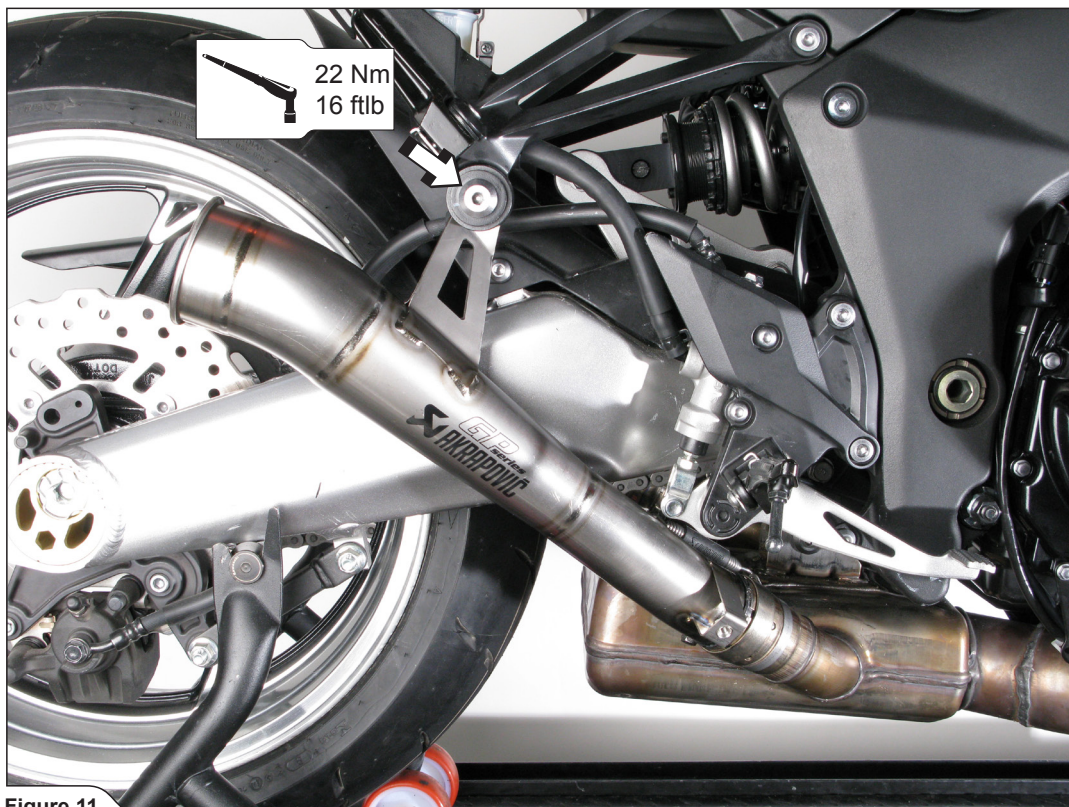

Figure 11
4. **For Slip-On Megaphone only:** slide the Megaphones all the way into the stock collector outlets, align the Megaphones in respect to the motorcycle and tighten the brackets, using stock bolts, washers and nuts (**Figure 11**).